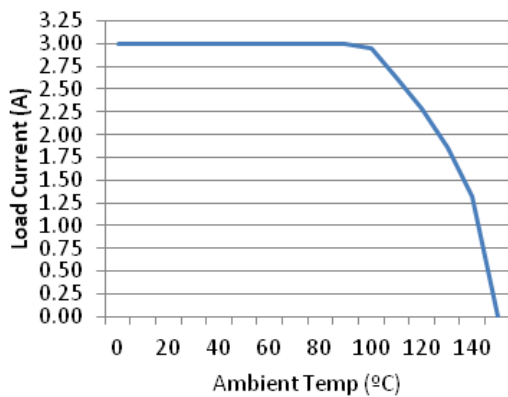
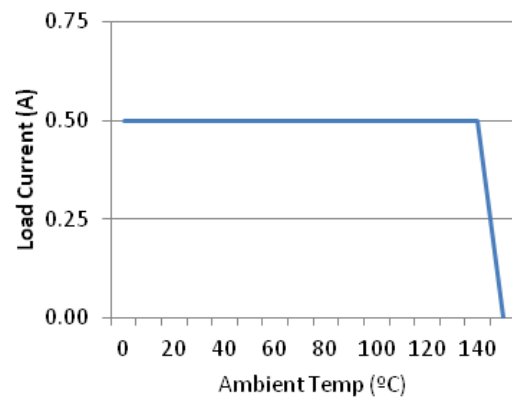

Figure 8. Q1 SOA at VGS_Q1=-4.5V
Figure 13. Q1 SOA at VGS_Q1=-1.2V
- $T_{J\max}$ limits and other related conditions apply. Refer to SOA charts, Figure 8 through Figure 13